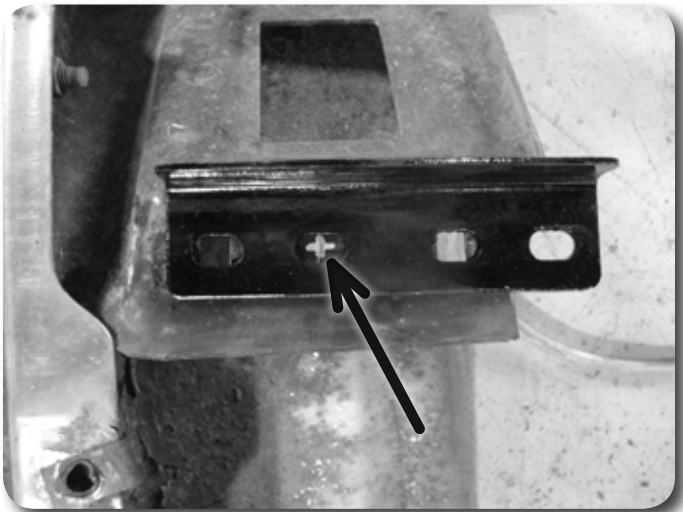

Figure 20
49. Using the new outside bumper relocation brackets as a template, mark the center of the holes to be drilled on the factory bumper brackets. Drill 1/2" holes at the marks on both bumper brackets. Figure 20